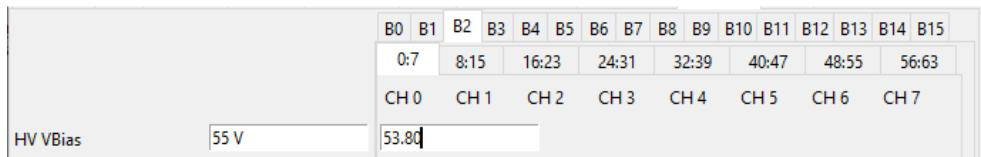

Fig. 3.25: Example of "HV VBias" parameter setting for a particular board.
The command defines the value for the bias voltage common to all channels. The available values range from 20.00 (V) to 85.00 (V). Board Tabs as those shown in **Fig. 3.25** are present in top left part of the HV_bias Tab and allow the user to define a different value of the **HV VBias** parameter for each board. For instance, the example reported in **Fig. 3.25** shows that a value of the **HV VBias** parameter of 53.80 V is set only for Board 2.
- **Vmon**: The HV measured value provided by the A7585D power supply to all channels of the board selected via the Board Tab (see **Fig. 3.25**). The value does not take into account the voltage provided by the internal Citroc-1A DACs.
By pressing the HV-ON button  the HV ramp up of the board selected via the proper Board Tab (see Fig. 3.25) starts. During the ramp up, the user can monitor the HV and current values by looking at the Status Bar or the Vmon and Imon values (see Sec. 3.4). To turn off the HV, the same button has to be pressed by the user.